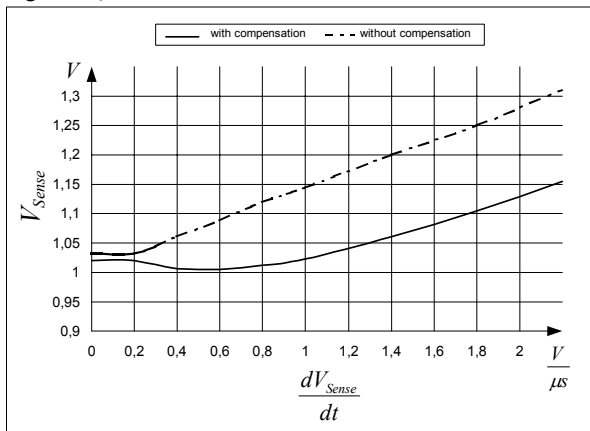

Figure 13 Overcurrent Shutdown
within a wide range. Current Limiting is now possible in a very accurate way (see Figure 13).
E.g. $I_{peak} = 0.5A$ with $R_{Sense} = 2$. Without Propagation Delay Compensation the current sense threshold is set to a static voltage level $V_{csth} = 1V$. A current ramp of $dI/dt = 0.4A/\mu s$, that means $dV_{Sense}/dt = 0.8V/\mu s$, and a propagation delay time of i.e. $t_{Propagation Delay} = 180ns$ leads then to an I_{peak} overshoot of 14.4%. By means of propagation delay compensation the overshoot is only about 2% (see Figure 13).